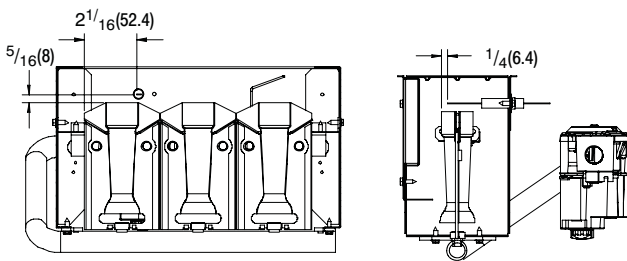

Fig. 4 - Igniter Location
- Verify the igniter is in the correct location. (See Fig. 4).